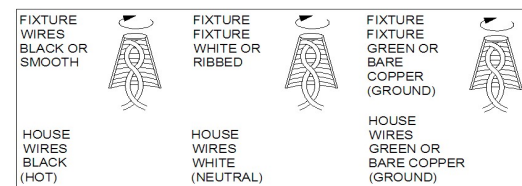

Fig 3
#### Replacing LED module (Fig. 3)
The LED module can be replaced by a qualified electrician without cutting of wire and without damage to any decorative element to which the fixture is attached. See installation steps for more details (Fig 3.)
1. There is 1 LED module in each square of the fixture. If one of them do not work, replace it as shown in Fig. 3. Make sure the power is off before you replace.
2. Unscrew screws (G) and the ground screw (D) with screwdriver and disconnect the ground wire and loosen the wire connectors (N) to remove the fixture from the wall.
3. Loosen wire connectors (E), disconnect the wires respectively, and then unscrew screws (H) and screws (L) to remove lamp shade (M) and cover (K), replace a new module (J).